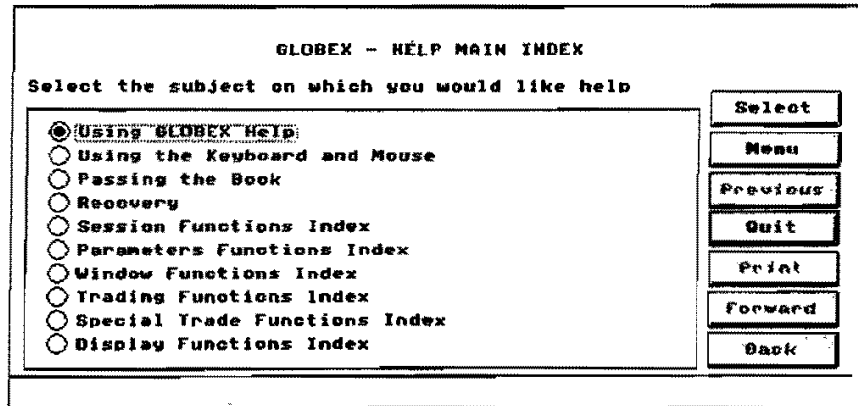

Figure 2.5 Help Main Index
To request help, click on **HELP** in the menu bar or press . The GLOBEX Help Main Index shown in Figure 2.5 displays. Choices on the Main Index include indexes, which list further choices for a subject, and subject titles such as Passing the Book.
4. Choose GLOBEX – Main Index. The index shown above in Figure 2.5 displays.